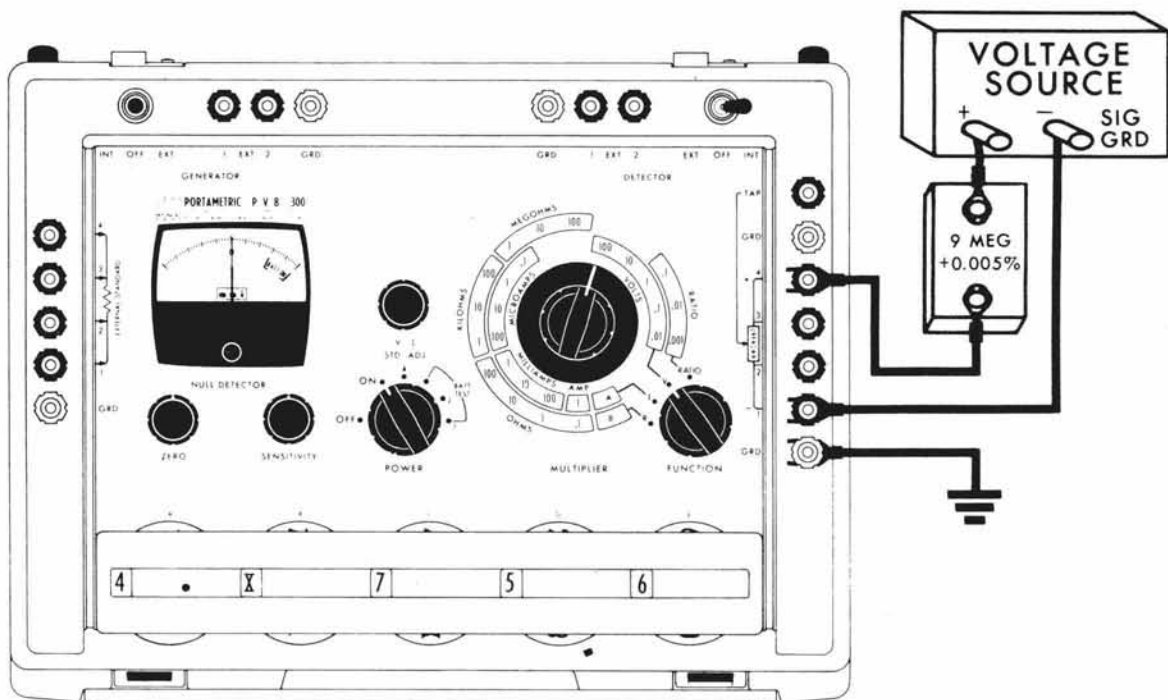

Figure 2.14 - High Voltage Measurement (Positive connection shown, refer to Paragraph 2.3.4 for negative connection.)
- 5) If the voltage to be measured is positive, connect signal ground to UNKNOWN terminal 1. If the voltage to be measured is negative, connect signal ground to UNKNOWN terminal 4. See Figure 2.14 for connections.